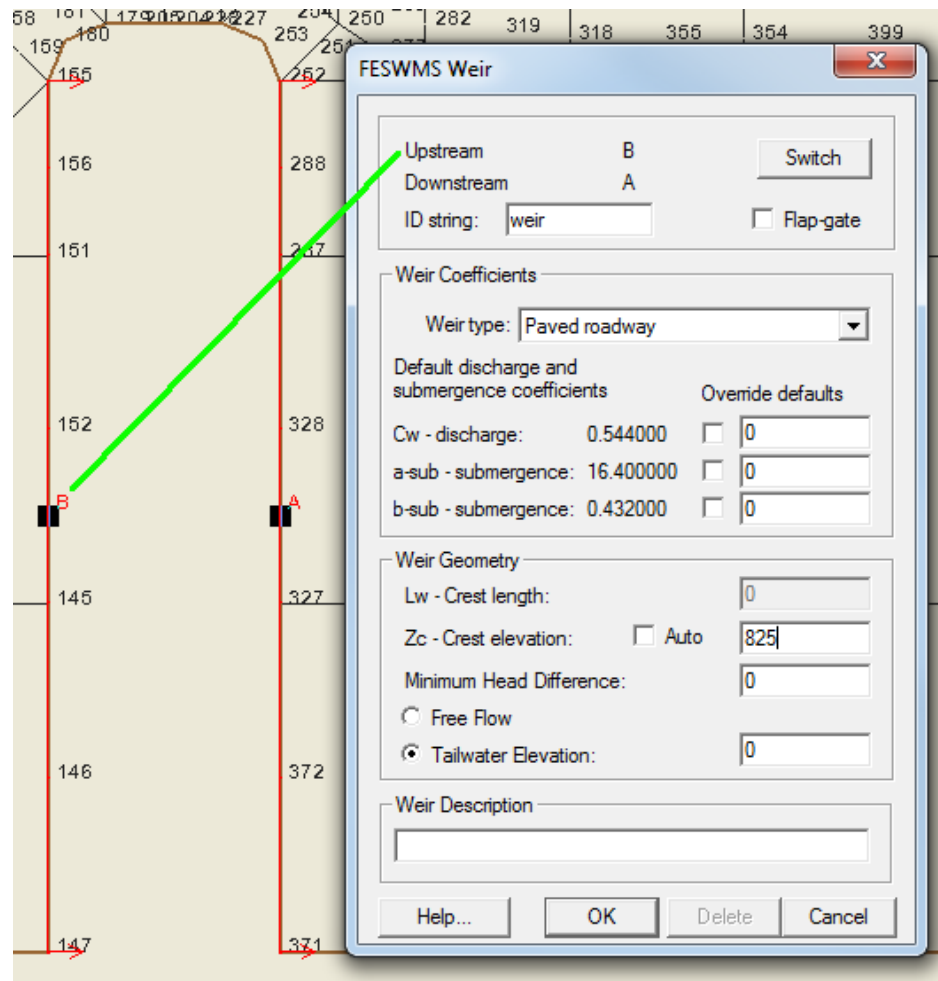

Figure 7 FESWMS Weir dialog
6. Note that each nodestring is labeled: one is labeled “B”, and the other is labeled “A”. In the dialog, make sure the value to the right of *Upstream* matches the letter corresponding to the nodestring going from node 147 to 155. If it does not, click on the **Switch** button (see Figure 7, below).